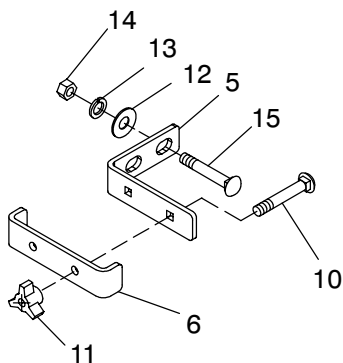

Figure 9 Hose Clamp Assembly
1. Install #40539 hose clamp bracket to right loader mount, using carriage bolts (3), flat washers (4), lock washers (5), and nuts as shown in Figure 9.